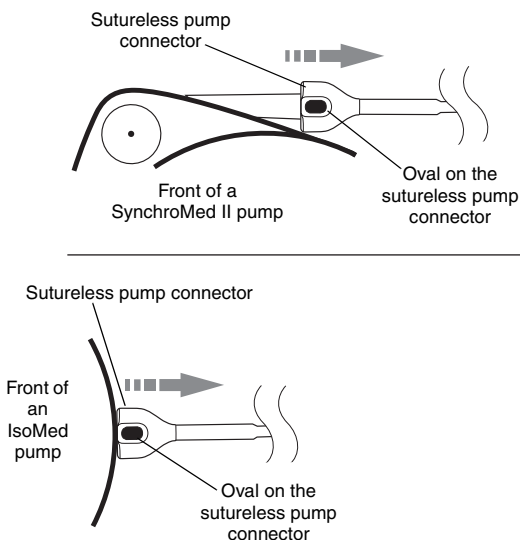

Figure 2. Removing the sutureless pump connector.
- a. If needed, slightly rotate the pump connector so one oval is flush with the front of the pump (Figure 2).
- b. Place a thumb and forefinger precisely on the oval marks located on the two flat portions of the connector (Figure 2).